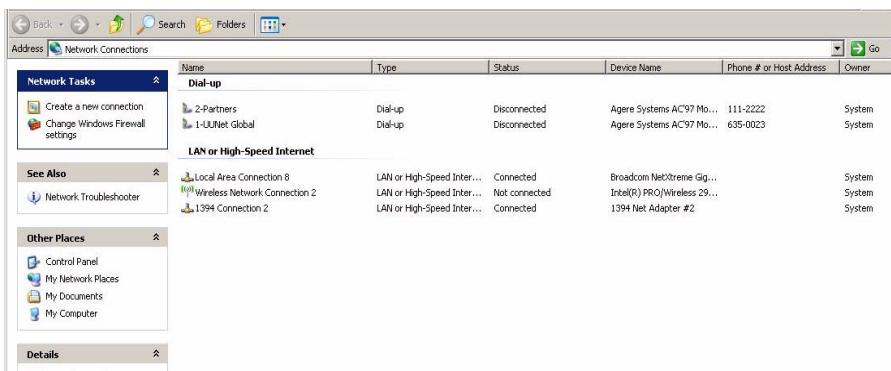

Figure 32 Network Connections Dialog Box (Windows XP, details view)
- 1 Open the 'Network Connections' dialog from the Windows Control Panel. You can also open this dialog from the *Start > Run* box by opening '**ncpa.cpl**'. See Figure 32 below.